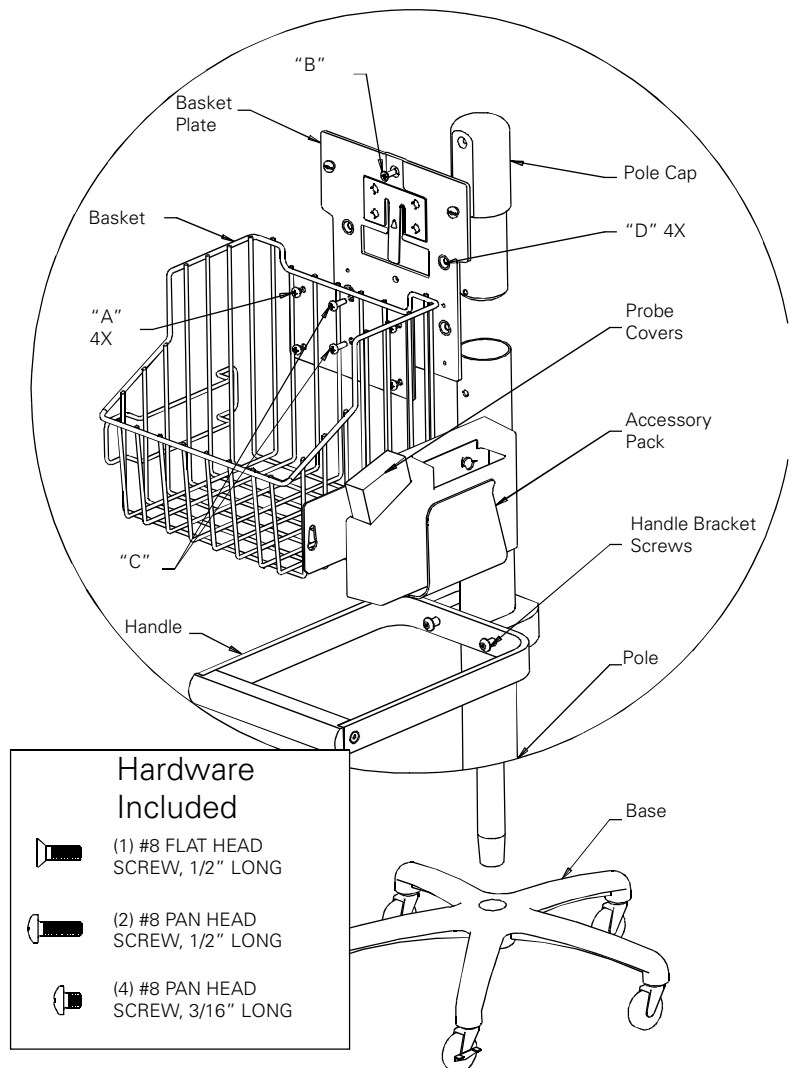

FIGURE 1
(Refer to figure 1 for the following instructions)
4. Assemble BASKET to BASKET plate by inserting (4) #8 x 3/16" long phillips screws through four holes designated "A". Securely tighten screws.
5. Assemble BASKET PLATE to POLE CAP using (1) #8 x 1/2" long phillips flat head screw inserted through top hole "B" in BASKET PLATE and into top threaded hole in POLE CAP. Do not securely tighten screw.
6. Align two "C" holes in BASKET with corresponding holes in POLE and insert (2) #8 x 1/2 long phillips screws. Securely tighten these screws and screw assembled in step 5.
8. For Model #5200-60 only, attach ACCESSORY PACK by orienting as shown in figure 1 and inserting onto side plate of BASKET and pushing up. This will lock ACCESSORY PACK onto BASKET.